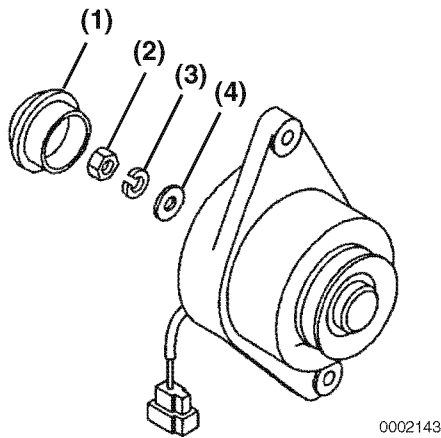

Figure 11-28
6. Reinstall the flat washer (**Figure 11-28, (4)**), lock washer (**Figure 11-28, (3)**), and nut (**Figure 11-28, (2)**). Tighten the nut to the specified torque.
7. Reinstall the rear cap (**Figure 11-28, (1)**).